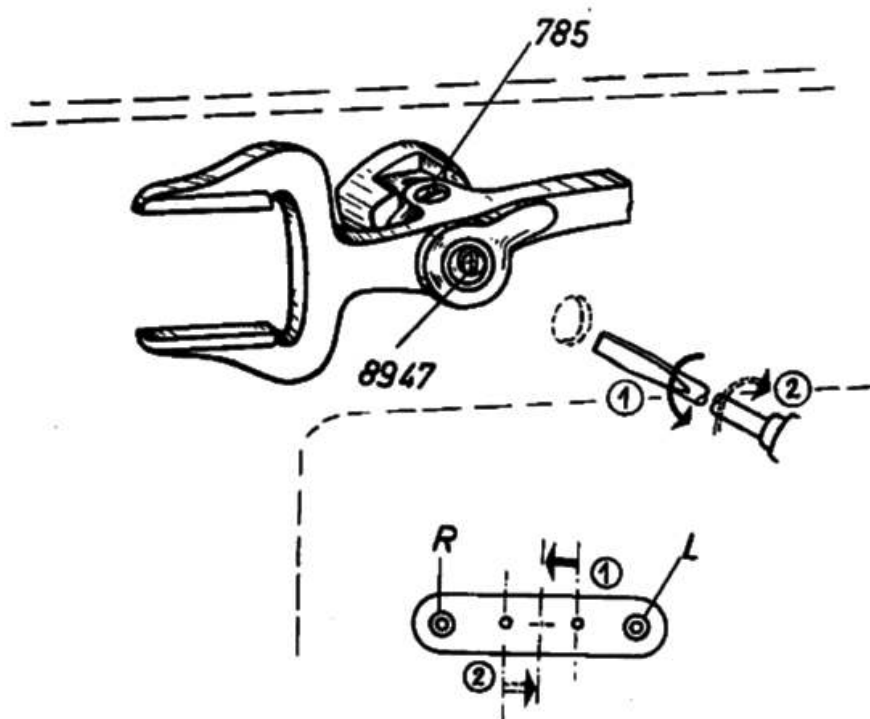

Fig. 27
In case the interspaces between the needle punctures should differ, adjust at eccentric stud (8947) near the fork of the needle bar frame pitman (Fig. 27). To turn the stud as may be required, loosen set screw (785) which can be reached from above, and insert the screw driver through the hole at the back of the arm. The direction in which the stud has to be turned is determined by the position of the center puncture in relation to the outer punctures.
Always turn the eccentric stud in the direction in which the center puncture has to be moved in order to center it between the two outer punctures **R** and **L** (Fig. 27). The needle hole is shown in the illustration as seen from the back of the machine. Tighten the set screw lightly, not tight.